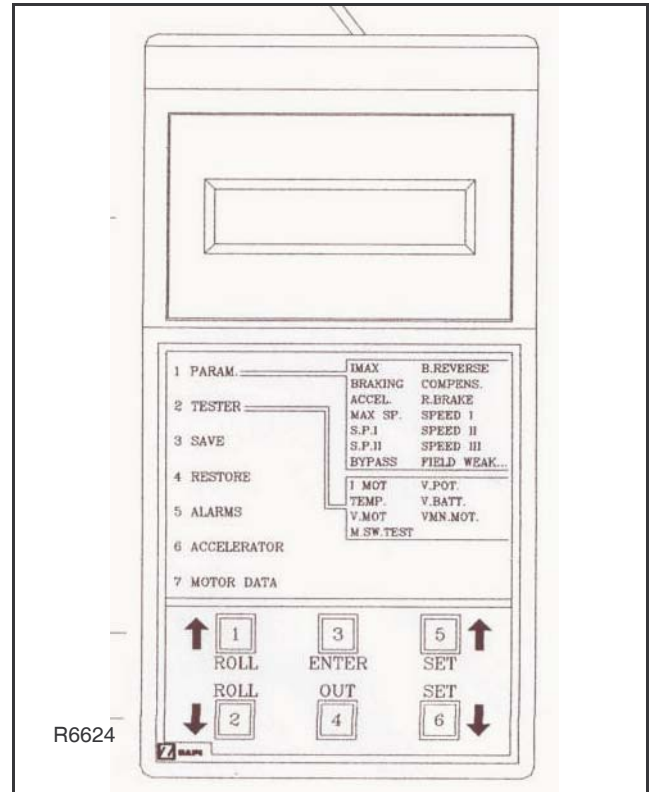

Figure 4-5 Zapi Handset
2. Press the ROLL down button (1, Figure 4-5) and the ENTER button (3) at the same time to enter the MAIN MENU.
3. Press the ROLL down button (1) or the ROLL up button (2) to find the PARAMETER CHANGE display.
4. Press the ENTER button (3) to view the parameters.
5. Press the ROLL down button (2) or the ROLL up button (1) to find the parameter to be changed.
6. Press the SET up button (5) or the SET down button (6) until the desired value setting is reached. The parameter is now set at the desired value.
7. Press the OUT button (4) to exit the parameters.